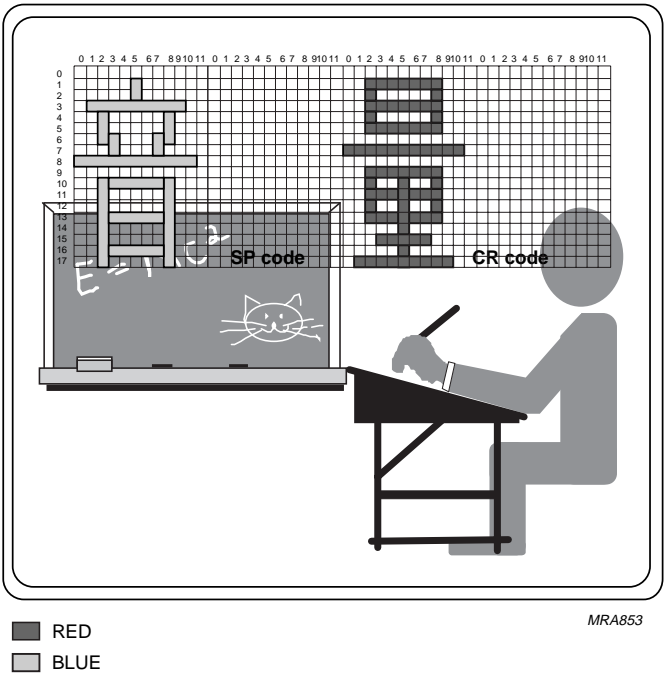

Fig.30 Space Code and Carriage Return Code in No Background mode - transparent pattern.
Figures 30 to 34 show the Space Code and Carriage Return Code in the 4 different Background/Shadowing modes:
- Mode 0: the No background mode. Both the Space Code and the Carriage Return Code are displayed as transparent (no bit) patterns with the video signal as the background. This is shown in Fig.30.